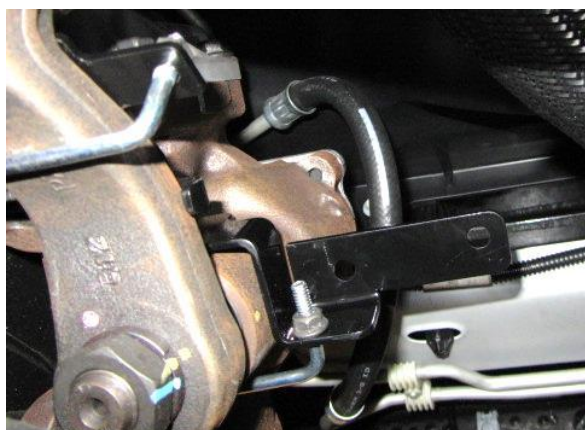
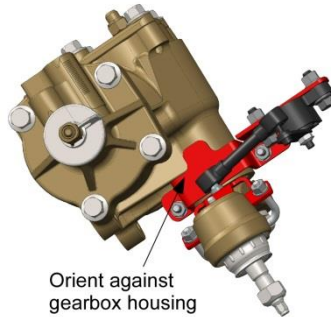

Figure 52. Installation of Steering Sensor Bracket
Figure 53. Steering Sensor Bracket placement.
4. Install Steering Sensor Bracket around gearbox, with the cutout near the tab, against the rib. See Figure 52 and Figure 53.